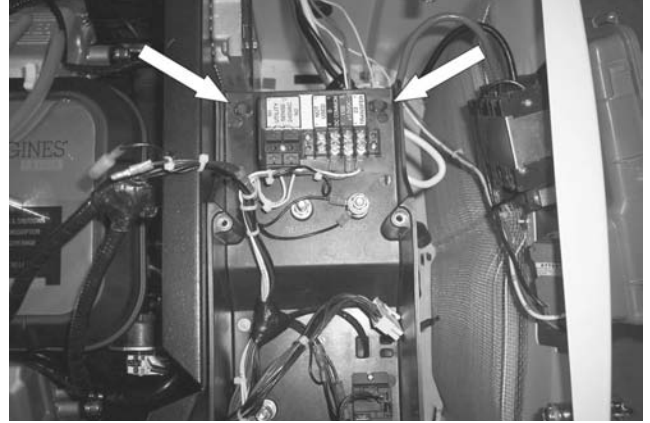
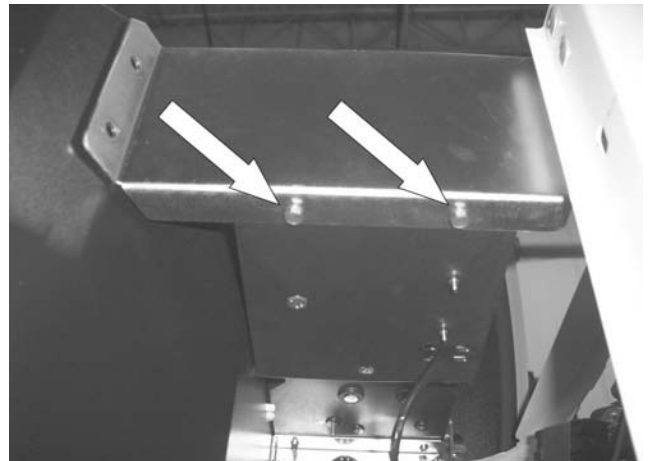

Figure 7.
Figure 8.
6. Remove controller mounting box: Using an 8mm socket remove the two screws from the rear of the controller mounting box. See Figure 7. Using a 10mm socket remove the two bolts from under the front of the controller mounting box. See Figure 8.